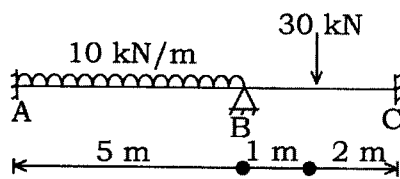

Fig. 2.2
- (b) A beam ABC has $AB = 5 \text{ m}$, $BC = 3 \text{ m}$. Ends A and C are fixed and intermediate support B is hinged support. The loading on beam is as shown in Fig. 2.2. Draw SFD and BMD of the beam using slope deflection method. (15)